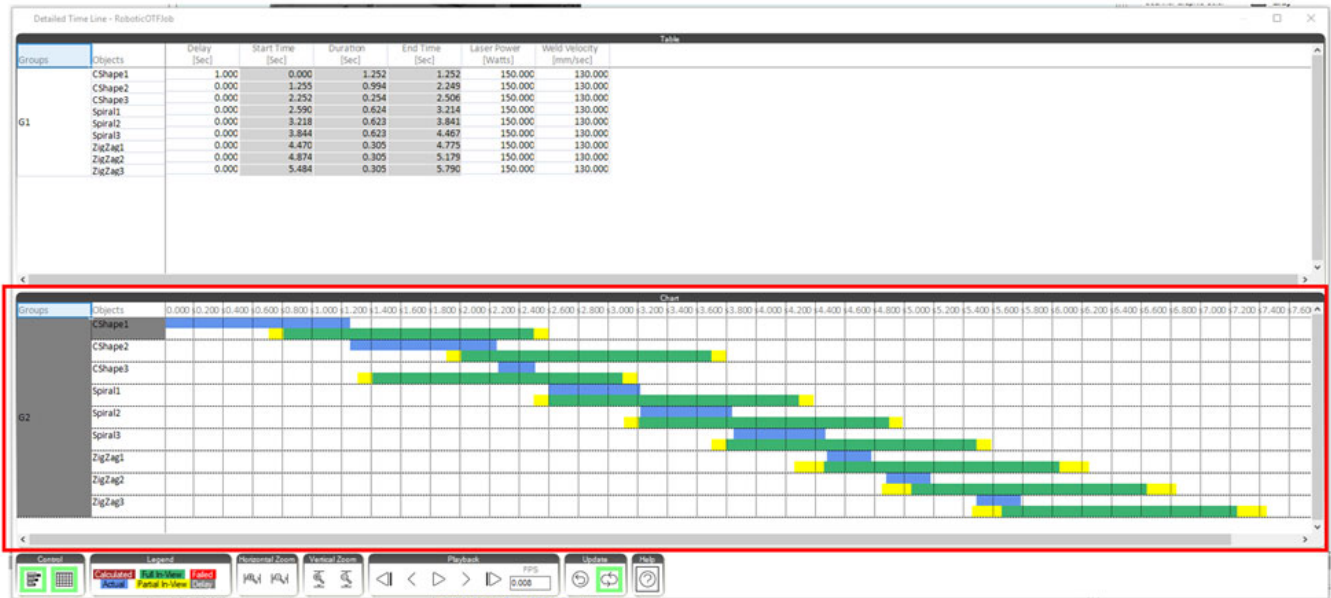

Figure 266: Timeline Graph
- **Timeline Graph** - This outlines detailed process object timings. This allows users to efficiently adjust parameters to develop the process. See Figure 266 on page 251.